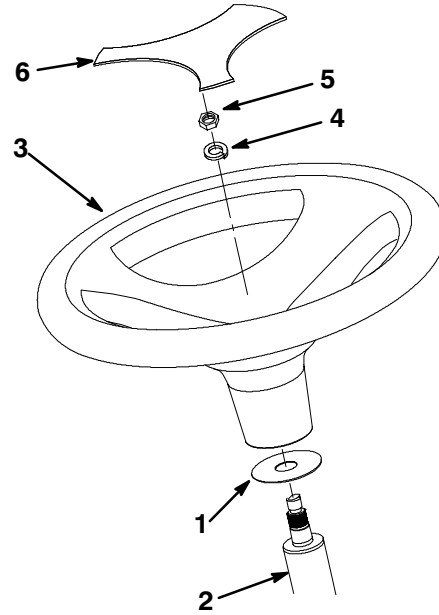

Figure 2
4. Secure the steering wheel to the shaft with a lock washer and nut (Fig. 2). Tighten the retaining nut to 45-50 ft-lbs.
1. Install the boot washer onto the steering shaft (Fig. 2).
2. Remove the plastic trim cover from the steering wheel (Fig. 2)
3. Install the steering wheel onto the shaft, carefully aligning the splines (Fig. 2).